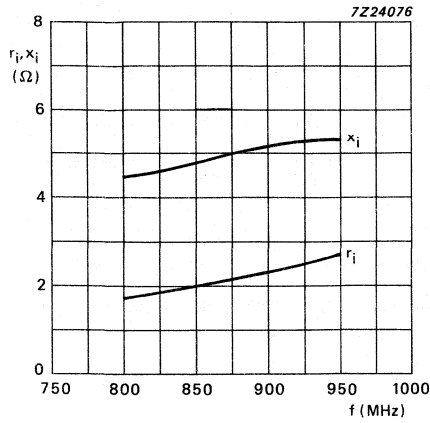

Fig. 8 Input impedance as a function of frequency (series components).
**Conditions for Figs 8, 9 and 10:**